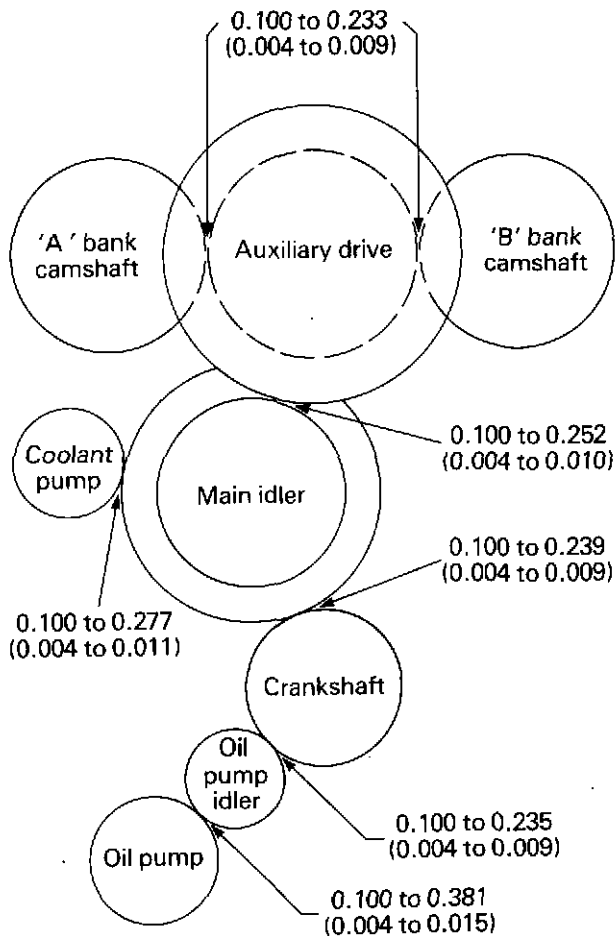

Fig. 14 Gear train backlash readings, Metric [Imperial].
83. Fit the oil pump drive gear with a locking washer and retaining nut. Torque tighten the nut to 120 Nm (88 lbf. ft.), and tab up the washer. Check the gear backlash. See figure 14.